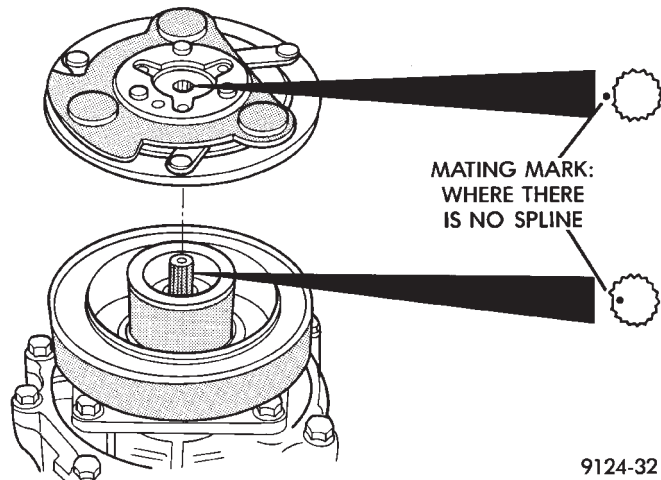

Fig. 12 Aligning Clutch Plate Splines
(10) Install armature plate to the compressor shaft. Note the machined mating splines (Fig. 12).
(11) Install compressor shaft nut. Tighten nut to 17.5 N•m (155 in. lbs.) torque.
(12) Install the compressor onto the mount.